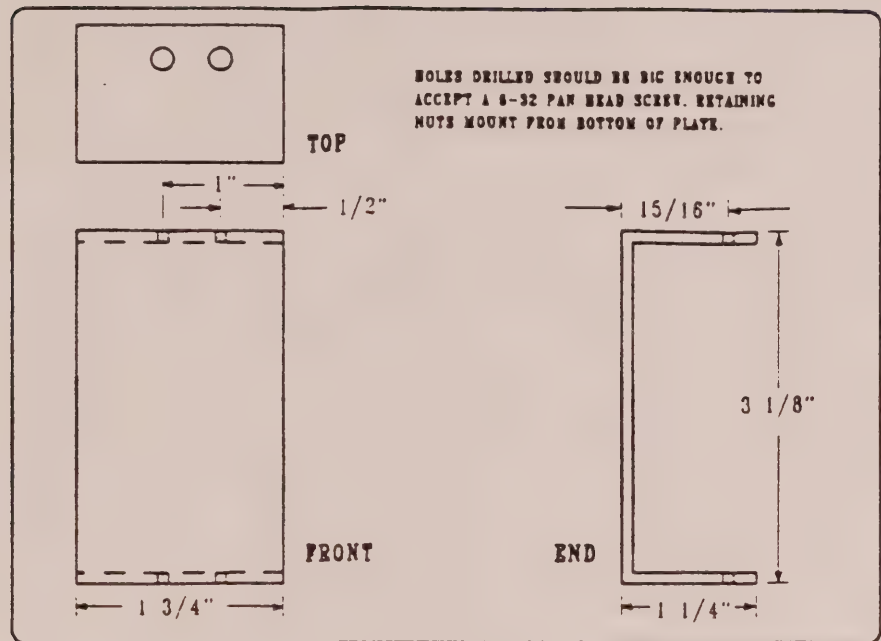

Figure 1-1. Receiver RF Connector Mounting Plate
4. Refer to Figure 1-1, *Receiver RF Connector Mounting Plate*, and construct the metal bracket which holds the receiver RF connector to the front of the radio deck. This plate will mount to the front of the radio deck casting opposite the stock interconnect cable mounting plate using existing mounting holes in the radio deck. When the new plate is mounted, drill holes to accept the UHF connector and shield assembly in it. Depending on the handle configuration of the plastic front panel which mounts to the radio deck, it may be necessary to "notch out" a portion of this bracket such that the front panel will seat properly. This notch will be about midway up the left side of the FRONT view shown in Figure 1-1.